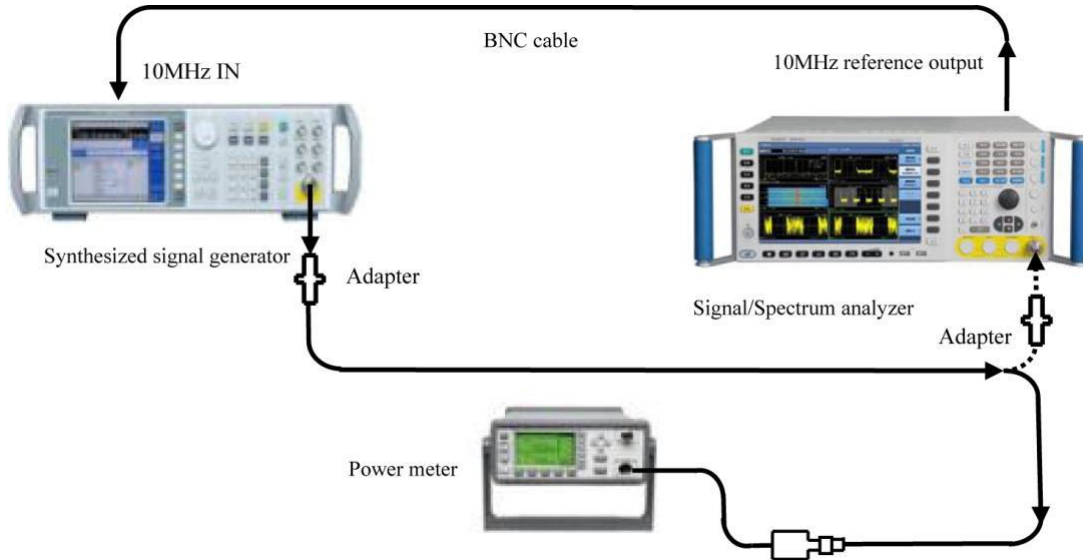

Fig. 8.11 Schematic diagram of overall absolute amplitude accuracy test
- 1) Zero and calibrate the power meter. Connect the tested instrument according to solid lines in Fig. 8.11 and connect the output of the signal generator to the power meter. Reset the 4051 analyzer and complete all calibrations without prompted error messages.
- 4) Change the connections in the test according to dotted lines in Fig. 8.11 to connect the cable via the adapter to the 4051 analyzer.
- 4) After calibration, take the calibrated part from the calibration cable and connect the test cable interface to the output interface of the 4051 analyzer as shown in Fig. 8.11.